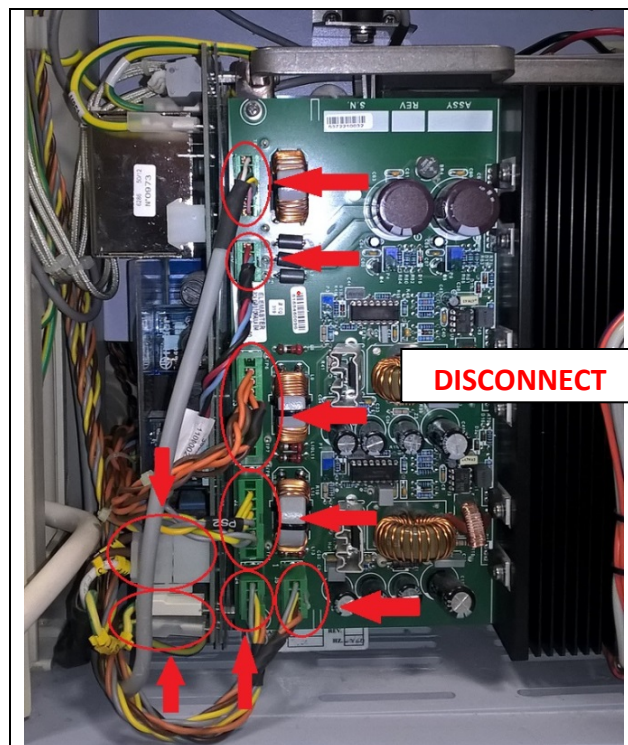

Fig. 3
5. Unplug the following connectors: PS2, PS3, PS4, PS5, PS6, PS7, PS8 and the two ground cables positioned below PS8 (**Fig. 3**).